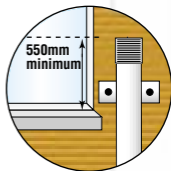

Fig. 3
- Make sure Fire Escape is the right way up (security collar to top), then position it in such a way that it can be accessed safely and with ease through the window. The top of the security collar should be at least 550mm above sill level (**Fig.3**).